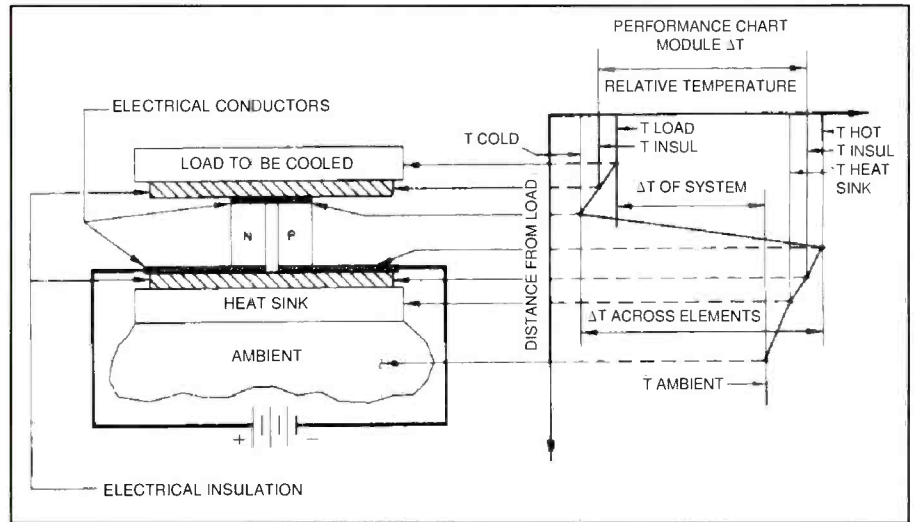

Figure 4. Typical temperature relationship in a TEC.
2) The efficiency of the heat exchanger that is between the hot surface of the T.E. and the ambient. These two temperatures (T_C and T_h) and the difference between them (ΔT) are very important parameters and must be accurately determined if the design is to operate as desired. Figure 4 represents a typical temperature profile across a thermoelectric system.